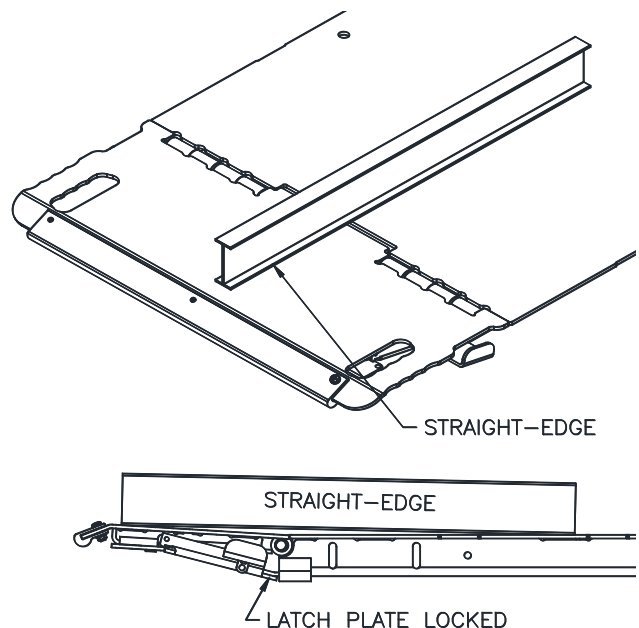

Fig. 5 LEVELING THE RAMPS WITH A STRAIGHT-EDGE
5. Raise each Ramp until the Latch Plate located beneath the Ramp locks into the base of the Platform. Raise the lift to full height so adjustments can be made to the bottom of the Ramps. Place a straight-edge (2 ft. minimum) fore-&-aft across one of the Ramp Hinge areas, **Fig. 5**.
- Slightly loosen the four (4) Flat-Head Screws securing the Movable Saw Tooth Adjustment Bar, **Fig. 6**. Tap on either end of the Adjustment Bar with a hammer to change the pitch of the Ramp. Once the Ramp is adjusted flat with the Platform as indicated by the Straight-Edge, **Fig. 5**, retighten the Flat Head Screws to lock the Adjustment bar into position.